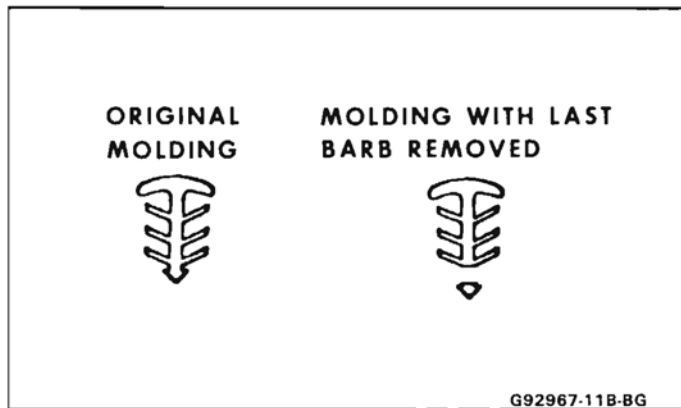

Fig. 2 - Removing Reveal Molding Barb
Install or Connect (Figs. 2, 3, 4)
1. To reuse original reveal molding, trim off barb and prefit in cavity (Fig. 2).